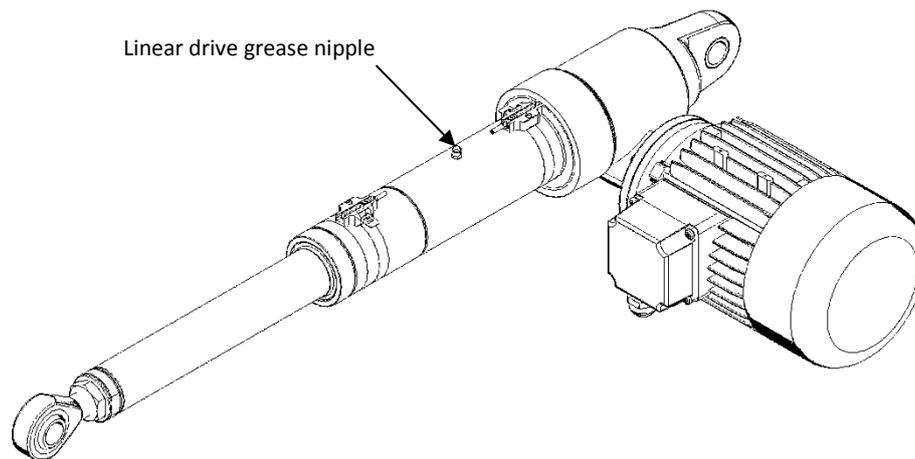

Figure 9.2 – Linear drive relubrication of ACL2/ACL2 B 30-40
- Relube the linear actuator using proper grease nipples, as shown on Fig. 9.2.